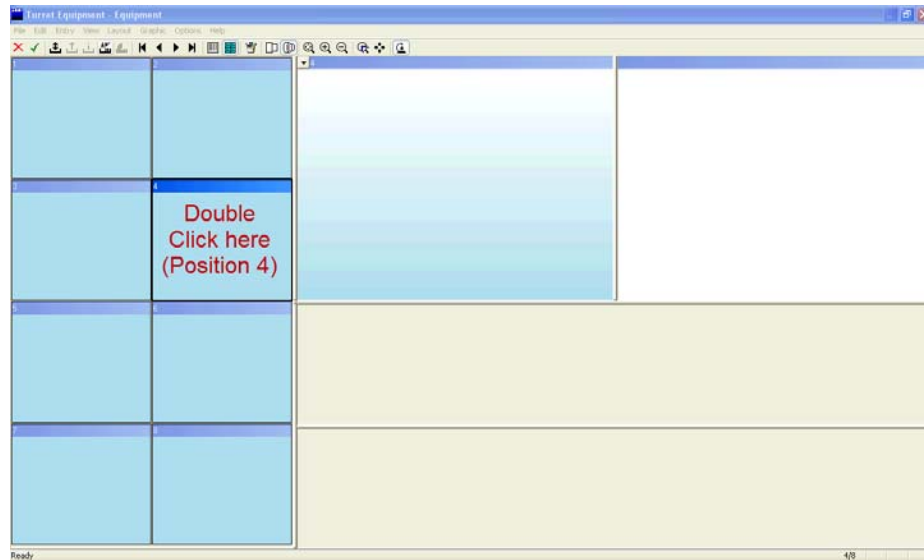

Fig. 2.17: Select tool position
- c. Double click on position 4 as the selected tool should be placed in position No. 4 as shown in Fig 2.17.